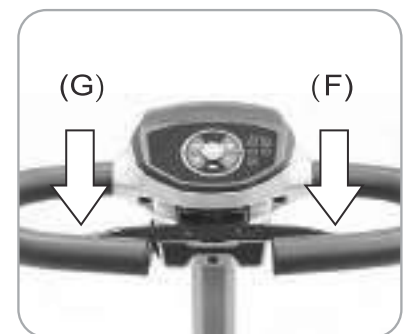

Figure 16
- Pull the right throttle (F) to move scooter forward. Pull the left throttle (G) to move scooter backward. This can be reversed if required by local dealer. (Figure 16)